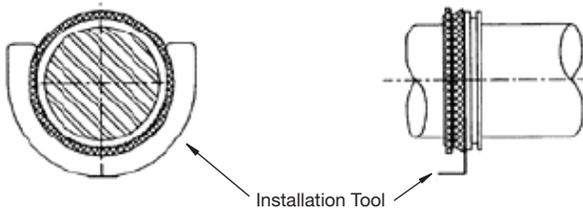

Figure 4a
5. Place one of the installation tools between the lip of the V-ring seal and the center ring on the seal ring (Figure 4a). Repeat the procedure for the second seal assembly. Rotate the tool(s) to the lower position to facilitate assembly of the bearing and seal(s) into the housing base (Figure 4a).